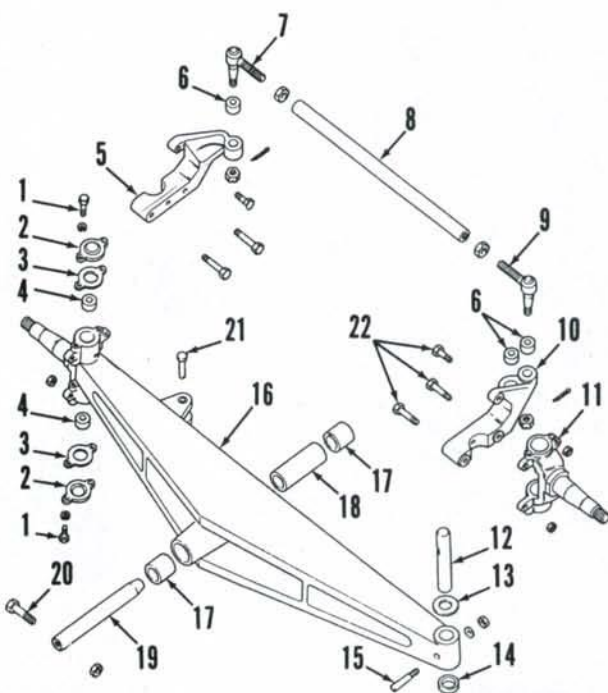
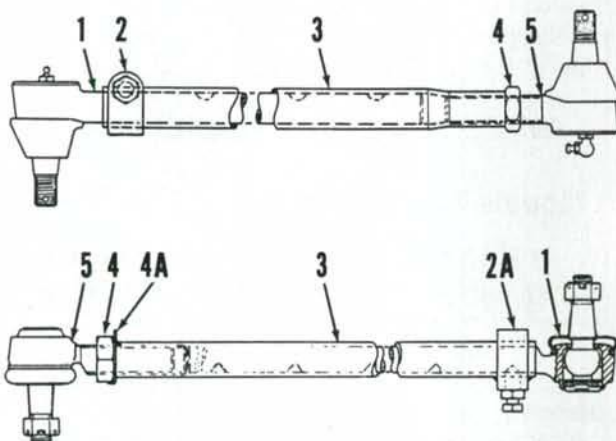

Fig. 6—Exploded view of heavy duty (cast) nonadjustable front axle used on some tractors.
Fig. 7—View showing typical tie rod assemblies used on models equipped with adjustable axles.
3. R&R SPINDLES. To remove either spindle (11—Fig. 6), block rear wheels securely and apply park brake. Raise front of tractor and install jack stand under axle main member (16). Unbolt and remove front wheel and hub.
5. REMOVE AND REINSTALL. To remove axle main member (16—Fig. 6), block rear wheels securely and apply park brake. If so equipped, remove front weights and weight bracket. Unbolt and remove front cover. Raise front of tractor and support with stands under side rails or oil pan. Remove front wheels. Identify and disconnect steering cylinder hoses at cylinder. Cap or plug all openings immediately to pre-
6. Two types of tie rods used with adjustable axles are shown in Fig. 7. Two tie rods are used on each tractor. Refer to Fig. 6 for tie rod used on models equipped with the nonadjustable cast axle. Removal and disassembly of tie rods on all models is obvious after examination of unit and reference to Figs. 6 and 7.
Front wheel toe-in on all models equipped with adjustable axles should be 3/16-5/16 inch (5-8 mm). To adjust toe-in, remove clamp bolt (2—Fig. 7) or set screw (2A) and loosen jam nut (4). Rotate tube (3)
Front wheel toe-in on all models equipped with the nonadjustable cast axle should be 0-5/32 inch (0-4 mm). To adjust toe-in, refer to Fig. 6 and loosen jam nuts at each end of tube (8). One nut is left hand thread and the other is right hand thread. Rotate tube as required to lengthen or shorten tie rod assembly. Tighten jam nuts and recheck toe-in. Readjust if necessary.